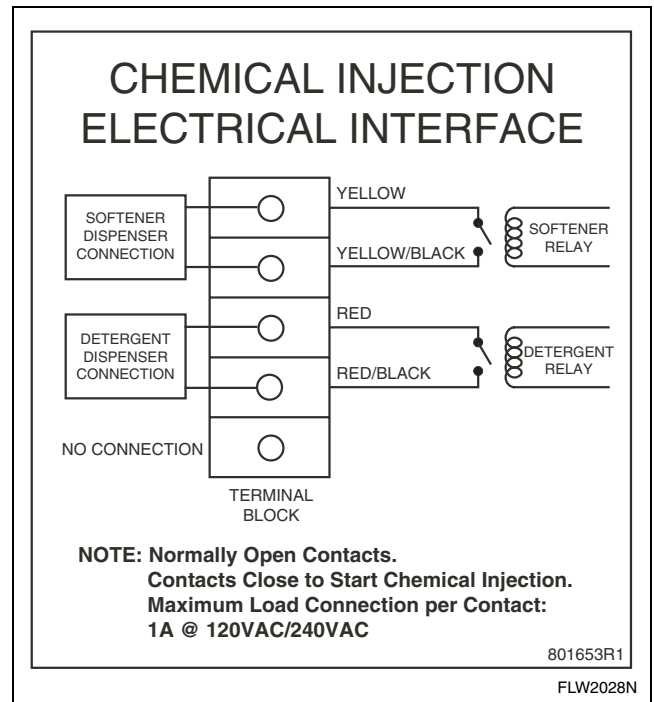

Figure 13
4. Refer to supply injection system instructions and label inside washer junction box cover (*Figure 13*) for electrical connection.
A junction box on the rear panel houses a terminal strip which furnishes supply output signals for the supply injection pumps. Refer to *Figure 13* for the injection interface label.